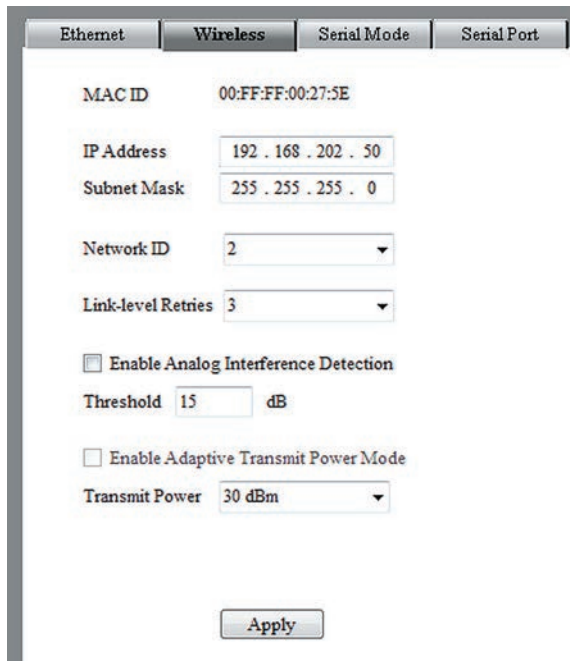

Figure 43. Wireless configuration dialog box.
STEP 12. The *Interfaces* screen will open. Click on the **Wireless** tab. See Figure 43.